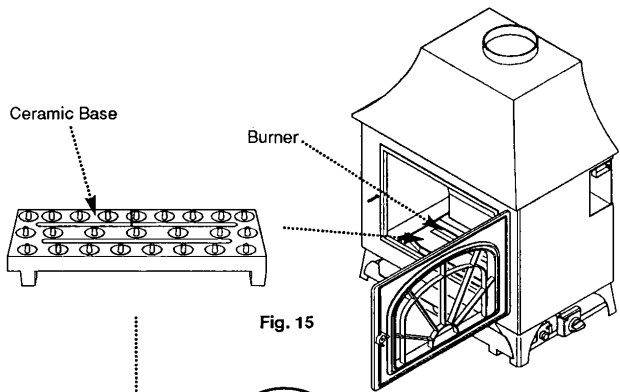

Fig. 15
1. Carefully unpack the ceramic base and place it centrally over the burner (Fig. 15).